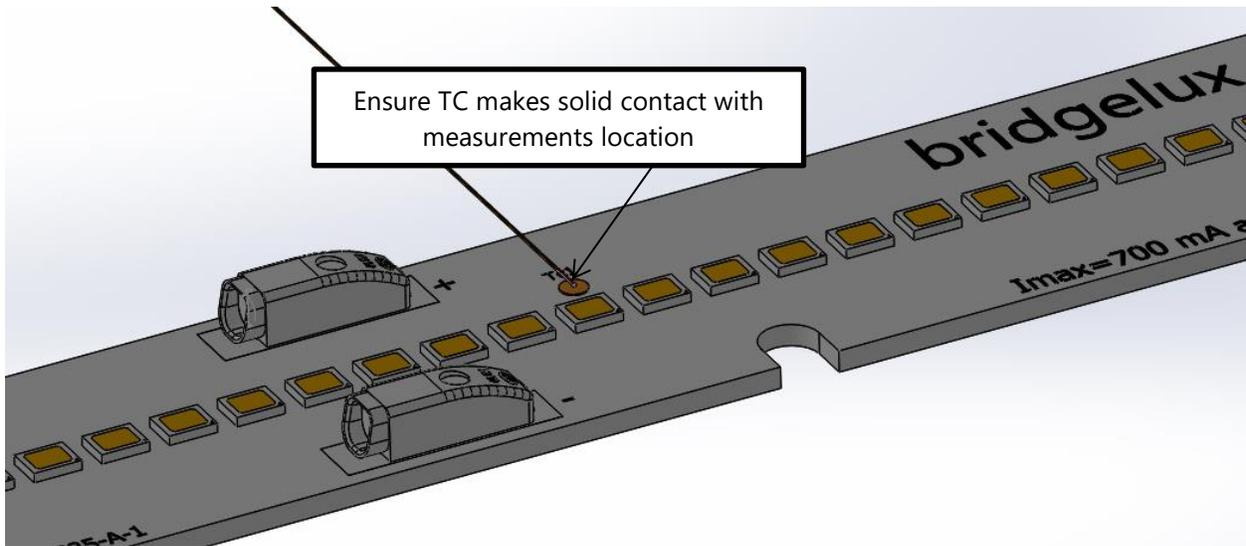

Figure 9: Example of a thermocouple attachment location
- Attach the thermocouple bead (junction) to the measurement point surface of the module as shown in Figure 9.